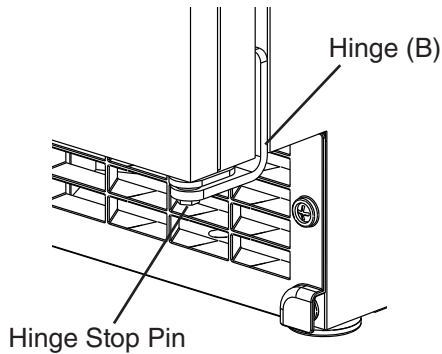

**Fig. 19**
- 7) Tighten the four M4x25 pan head screws installed in step 5. See Fig. 19.